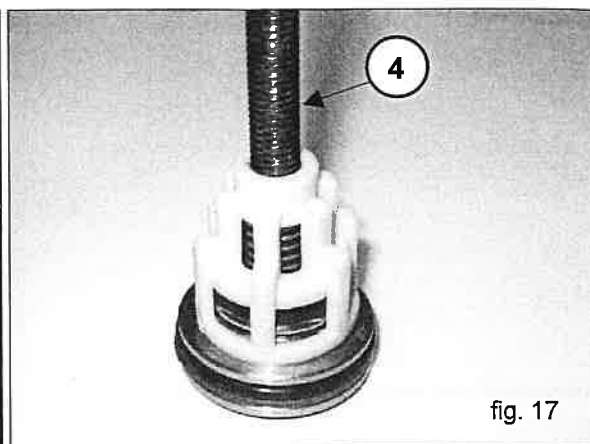

fig. 17
Disassemble the suction and delivery valve units by screwing on an M8 screw long enough to act on the valve and extract the valve guide from the valve seat, pos. ④ (fig. 17).